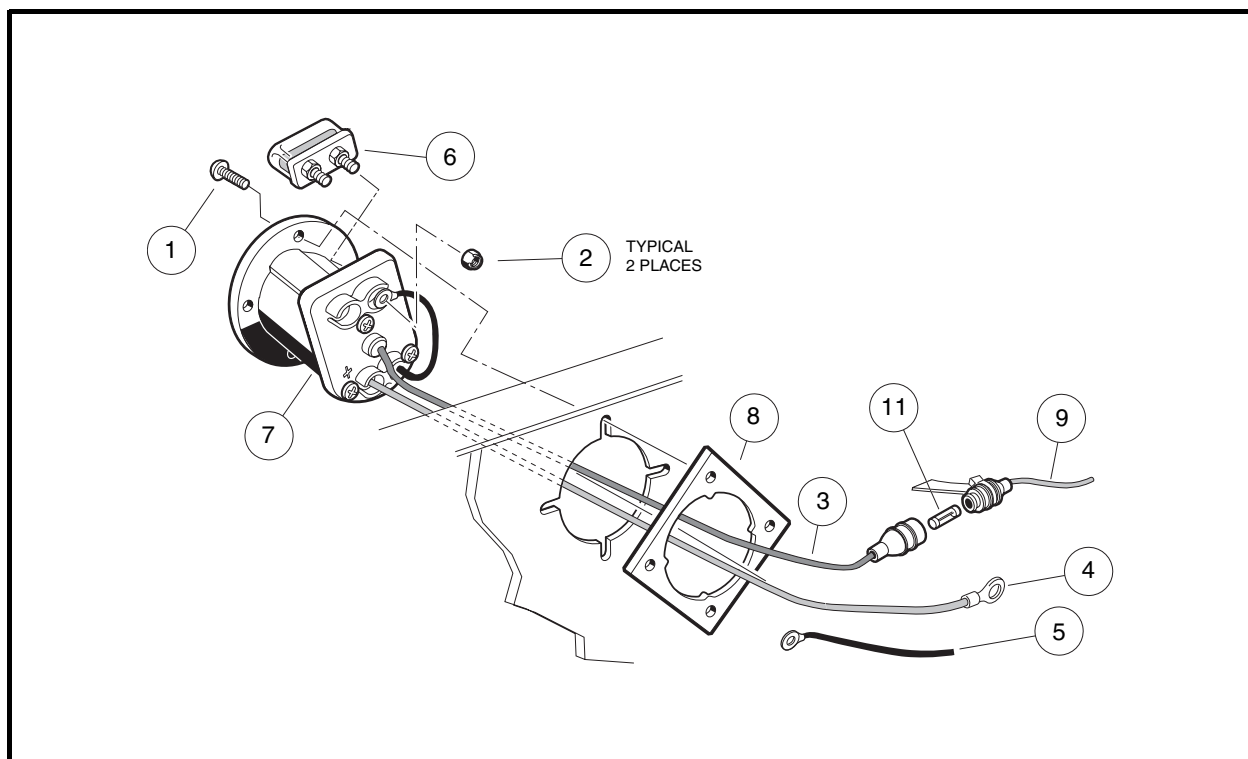

Figure 12-13 Charger Receptacle
2. Remove the 10-gauge red wire (4) from the positive (+) post of battery no. 1 (**Figure 12-13, Page 12-14**).
3. Remove 10-gauge black OBC wire (5) from charger receptacle assembly.
4. Disconnect the gray wire (9) from the receptacle at the yellow fuse holder.
5. Remove the four screws (1) that secure the charger receptacle bezel (7) to the receptacle backing plate (8) and to the vehicle body.
1. Insert the 10-gauge red wire (4) and the 18-gauge gray wire (3) through the hole in the vehicle body and the receptacle backing plate (8) (**Figure 12-13, Page 12-14**).
3. Install the four screws (1) that secure the receptacle assembly to the vehicle body and receptacle backing plate (8). Tighten screws to 16 in-lb (1.8 N·m).
4. Connect 18-gauge gray wire (9) to yellow fuse holder. Make sure fuse (11) is installed in fuse holder.
5. Connect the 10-gauge black wire (5) to the receptacle fuse link (6) on the charger receptacle assembly (**Figure 12-13, Page 12-14**). Tighten to 23 in-lb (2.6 N·m).
6. Connect the 10-gauge red wire (4) to the positive (+) post of battery no. 1. **See following WARNING.**
- Do not bypass the sense lead fuse (11) on the receptacle wire (3) (**Figure 12-13, Page 12-14**).
The fuse link on the 48-volt Club Car electric vehicle should not blow under normal operating conditions; however, if the fuse link has blown, the vehicle will not charge and the fuse must be replaced. The fuse link (6) is mounted on top of the charger receptacle in the battery compartment (**Figure 12-13, Page 12-14**). **See DANGER on page 10-1, Section 10.**
1. Remove the fuse link (6) from the charger receptacle (7) by removing the two nuts (2) and washers used to secure the 10-gauge black wire (5) from the computer and the 10-gauge black wire to the receptacle (**Figure 12-13, Page 12-14**).
2. Remove the fuse link (6) from the charger receptacle.
3. Install nuts (2) on fuse link mounting posts and tighten to 23 in-lb (2.6 N·m) (**Figure 12-13, Page 12-14**).